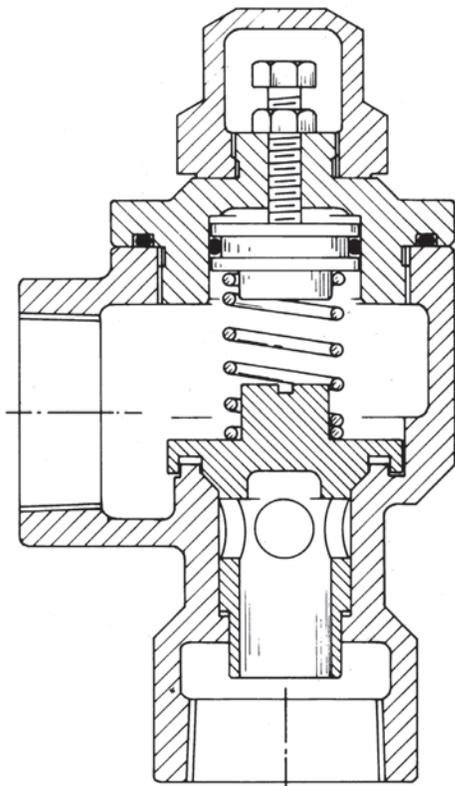

Figure 19
1. **Constant Bleed System (CBS) option (Figure 19)** provides for controlled 'bleed-off' of vapor, enhancing self-priming and vapor clearing capabilities of the pump. **NOTE:** All Blackmer bypass valves use a similar hole to both equalize pressure and "bleed off" vapors.